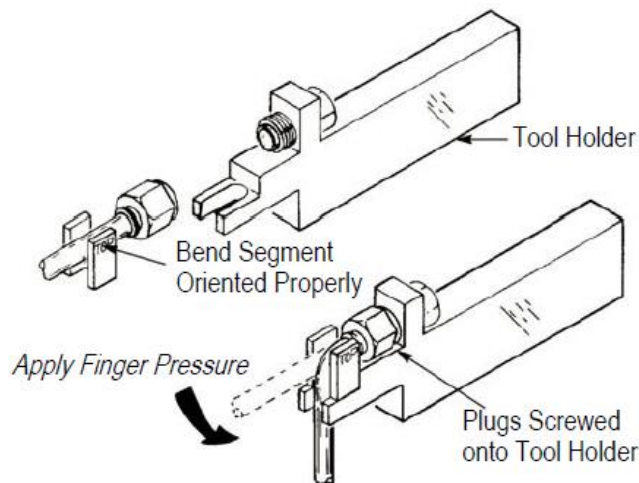

Figure 15
1. Screw the terminated plug onto the dummy jack of the tool holder (see Figure 15).